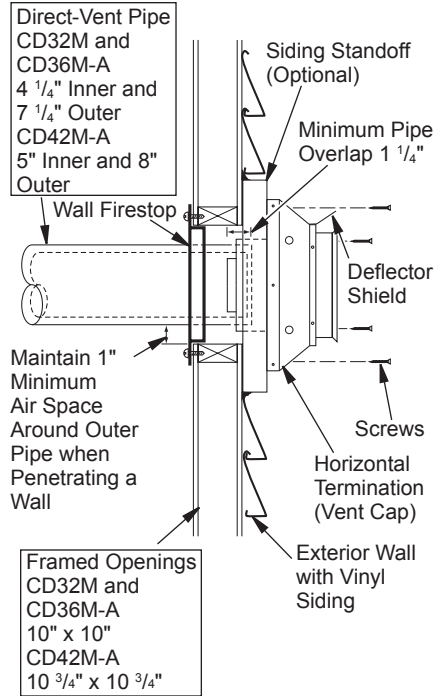

Figure 7 - Vent Termination (Horizontal)
4. Allow 1" of pipe to protrude from internal wall, depending on wall thickness. See Figure 7, page 8.
5. For horizontal installation, an optional siding standoff may be installed between the vent cap and the exterior wall. Secure horizontal vent cap to standoff. Secure standoff/vent cap assembly to wall (see Figure 7, page 8). Do not seal termination to vent pipe. The vent termination must be removable for service pipe inspection.